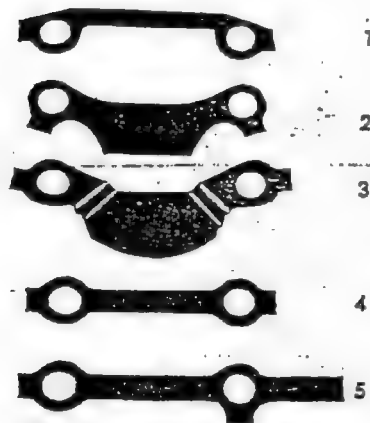

Fig. 42-7/4
- * The locking plates have been modified several times. Use locking plate Part No. 111 994 04 32 for Teves and Girling brake calipers and locking plate Part No. 112 994 03 32 for Dunlop brake calipers. The sheet-metal extension of this locking plate should be bent over the rubber ring (19) of the brake line in order to secure the line in position (Fig. 42-7/8).
Also for the Dunlop brake caliper has the locking plate been changed. The extended locking plate has to be bent over the rubber ring (19) of the brake line in order to ensure that the brake line has been properly laid. The locking plate has the Part. No. 112 994 03 32 (Fig. 42-7/8).